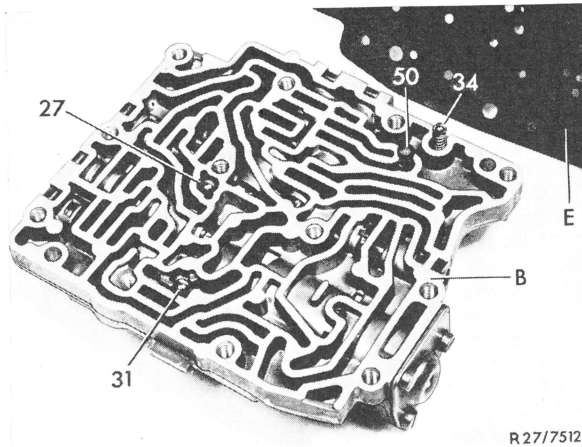

Fig. 12
**21** Insert ball of 7 mm dia. (27) of one-way throttle valve K 1, ball of 7 mm dia. (31) of one-way throttle valve K 2, ball of 5.5 mm dia. (34) with spring as well as filter (50) with spring into top (B) (Fig. 12).